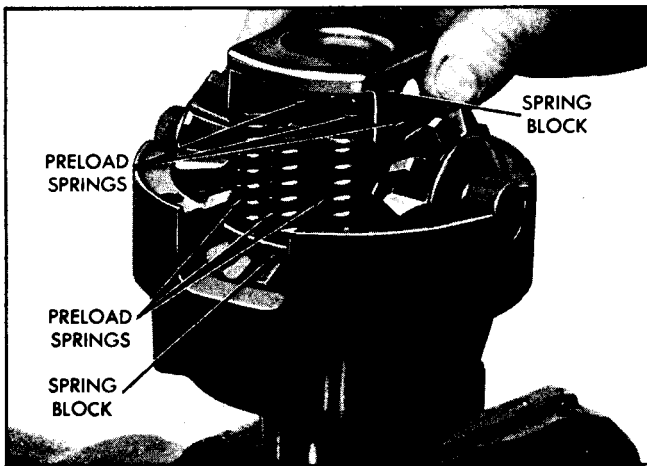

Fig. 4B-14 Installing Second Spring Block - Two Pinion Tempest and Firebird
1. Clamp one axle shaft in vise, allowing three inches to extend above vise jaws. Then place cap half of differential case over extended axle shaft, with interior of case facing up (Fig. 4B-11).